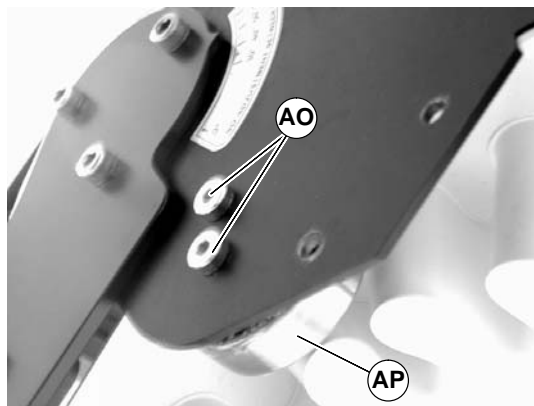

Figure 19
5. Remove screws (AO of Figure 19) and remove roller bearing (AP).